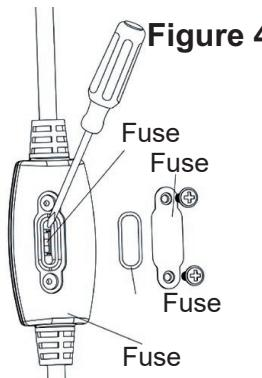

Figure 4
2. Locate the fuse holder on the power cord. Use screwdriver to remove the fuse cover and take out the O-ring (see Figure 4).
3. Remove fuse carefully by using a small screwdriver to pry the fuse out of the compartment by the metal ends of the fuse (see Figure 4).
5. Replace the O-ring, close the fuse cover in place and secure with the 2 screws (see Figure 4). If fuse cover is difficult to close, make sure fuse is secured in place completely by pressing down on metal ends of the fuse. **Caution:** Risk of Fire. Do not remove or replace the Fuse Box. It contains a safety device (fuse). Discard product if the fuse box is damaged.